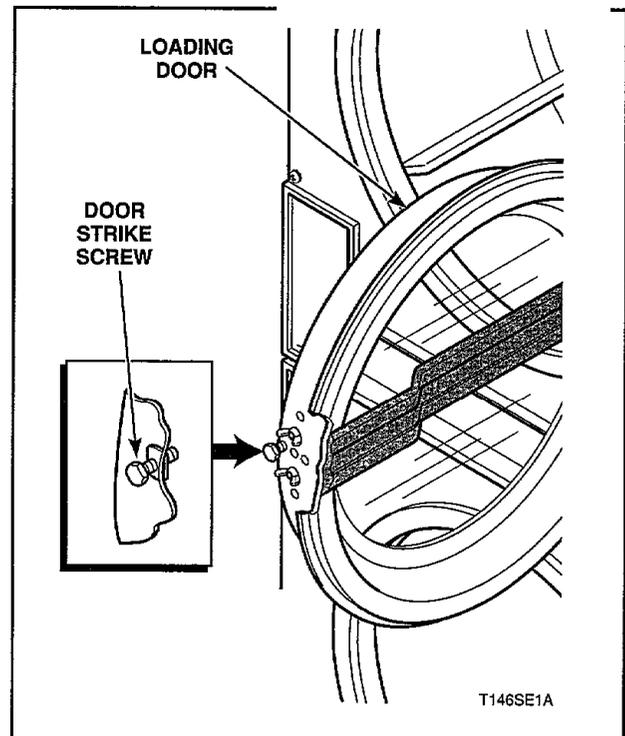

Figure 32
39. CYLINDER DOOR STRIKE (Figure 32)